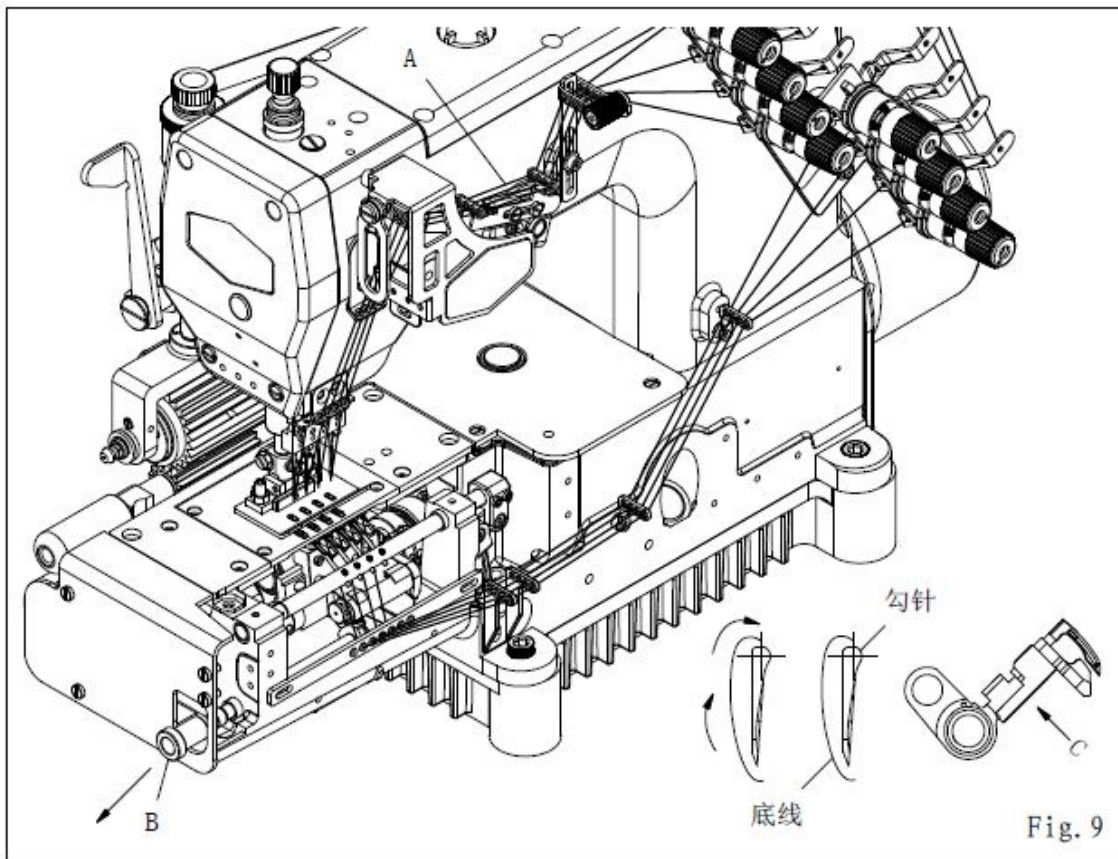

Fig. 9
2. 穿底线时, 利用弯针拉出位置, 将勾针座放倒后再穿线。穿勾针线时, 应该在左边方向将线穿进勾针孔, 不得从右边方向穿进去, 如从右边方向穿进的话, 线会跑到左边来, 影响性能。(图 9)
- b. When threading the bottom line ,pull out the position with the tooper and threading after put the looper Holder down. The thread should be put into the looper hole in the left direction rather then the right direction when threading ,if threading from the right direction .The thread will run to the left which will affect the performance. (Fig. 9)
- (1)将针杆上升到上死点。
- (2)用手指松驰上线 A(从线轴一侧将线拉出)。
- (3)一边旋转一边拉出牵引杆的旋钮 B, 然后向左边一拉, 弯针座就放倒了。
- (4)穿线结束之后, 将弯针座 C 再推上去, 让其复位(此时要以听到咔嚓一声为准)。(图 9)
- (d)After the thread is finished push the looper C up again and let it reset(whichever click you hear is the best time) (Fig.9)